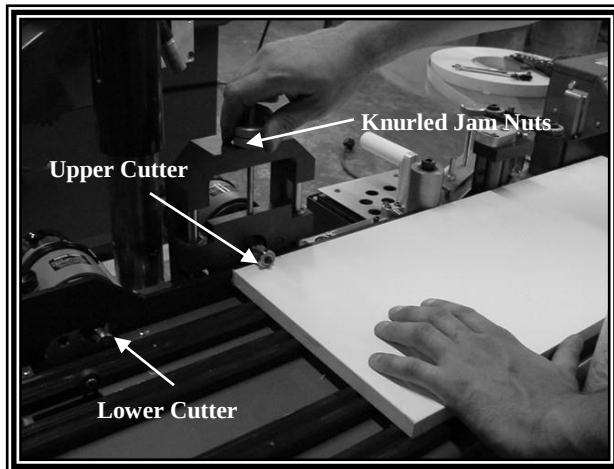

FIGURE 11
3. Upper Router Height Adjust (FIGURE 11) (Accutrim system)